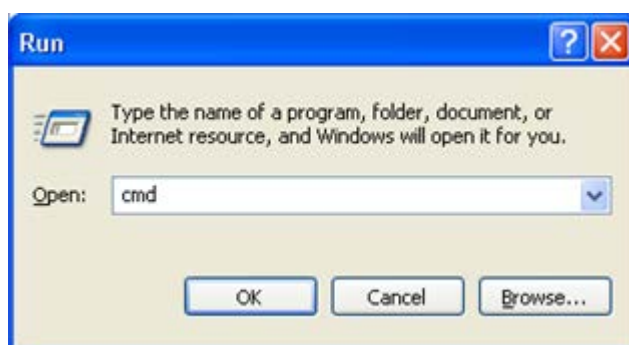

Figure 7-2 : Run Window
4. Open a DOS window by selecting **Start > Run**, and typing "cmd" in the window that appears, as shown in Figure 7-2.